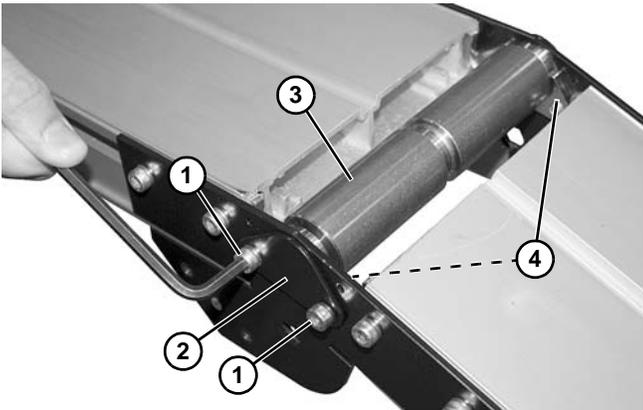

Figure 122
3. Remove two screws (Figure 122, item 1) and remove bearing cover (Figure 122, item 2) on both sides of knuckle.
4. Slide idler pulley (Figure 122, item 3) to one side of the conveyor, remove bearing housings (Figure 122, item 4), and then remove idler pulley from knuckle plates.